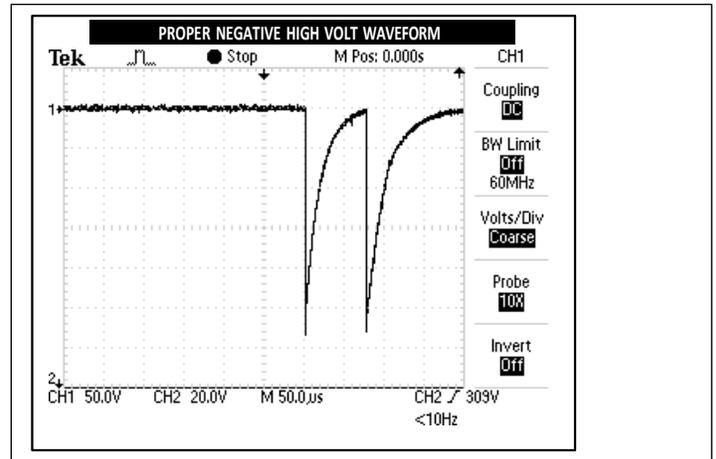

Figure 6.8
7. Compare waveform on scope to **Figure 6.8**.
1. Waveforms on scope the same as **Figures 6.8 and 6.9**. Amps do not exceed 1.5.